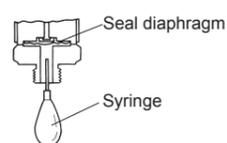

Figure 1 Cleaning of the Pressuresensing Chamber Interior
- When measuring pressure or cleaning the sensor, exercise care to avoid damaging the seal diaphragms (see figure 1).